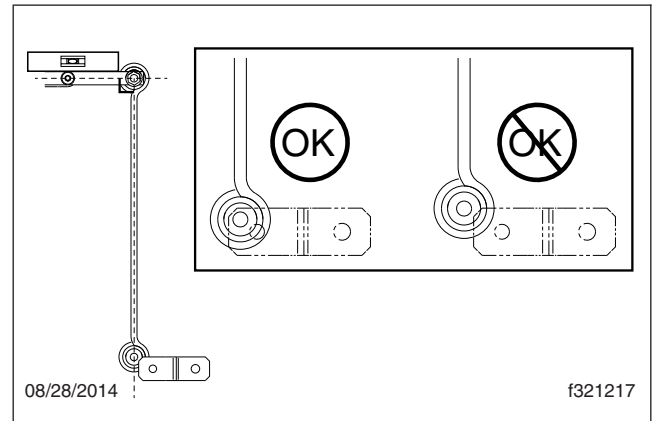

Fig. 4, Permissible Variation in Z-Bracket Position
- 7.3 With the height sensor arm level and the linkage rod at 90°, check if the linkage end hole is within the perimeter of the Z-bracket mounting face. See Fig. 4.
If the end hole is within the perimeter of the Z-bracket mounting face, as shown in **Fig. 4**, the component positions are sufficient. No further work is necessary.
If the end hole is not within the perimeter of the Z-bracket mounting face, as shown in **Fig. 4**, install a new Z-bracket in the correct position. See **Positioning the Z-Bracket**.